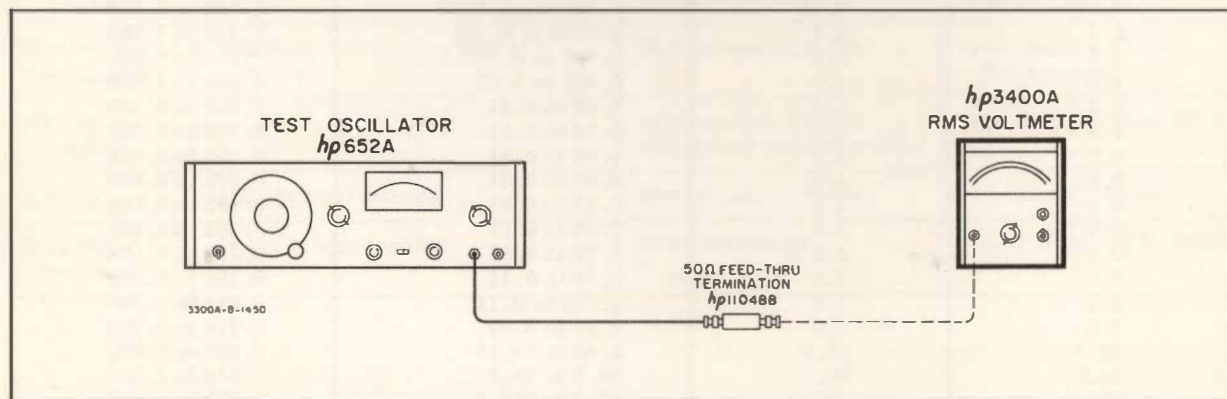

Figure 5-2. Frequency Response Test Setup
- Connect test setup illustrated in Figure 5-2.
- a. Connect test setup illustrated in Figure 5-2.